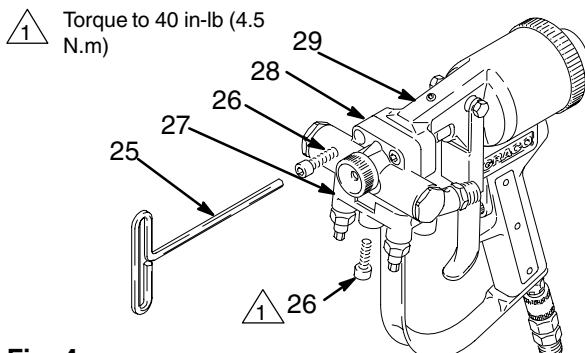

Fig. 4
1. Use the 3/16" wrench (25) to remove one cap screw (26) from the fluid manifold (27) and two cap screws (26) from the nozzle housing (28). See Fig. 4.
2. Trigger the gun, and then pull the nozzle housing (28) straight off the gun body (29). See Fig. 4.
11. Use the 3/16" wrench (25) to install the two top cap screws (26) firmly into the nozzle housing. Torque to 40 in-lb (4.5 N.m). See Fig. 4, page 10.